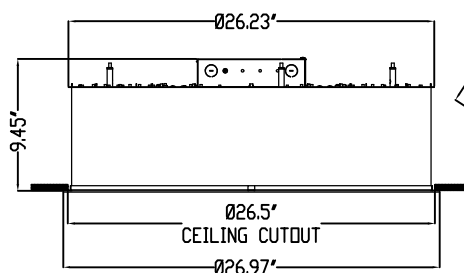

Fig.1
1. Create Ø 26.5 inches cut out into the ceiling surface. Fig.1